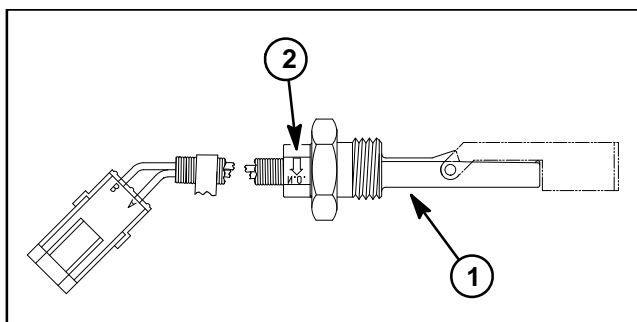

Figure 96
3. If oil level sensor was removed from reservoir, install oil level sensor into reservoir making sure that arrow on sensor is pointing down (Fig. 96). Torque sensor nut from **110 to 140 in-lb (12.5 to 15.8 N-m)**.